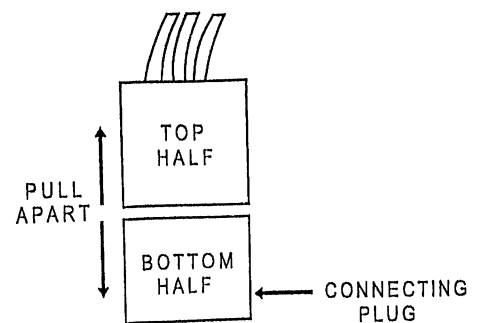

FIGURE 2
2. Unplug the wires. See Figure 2.